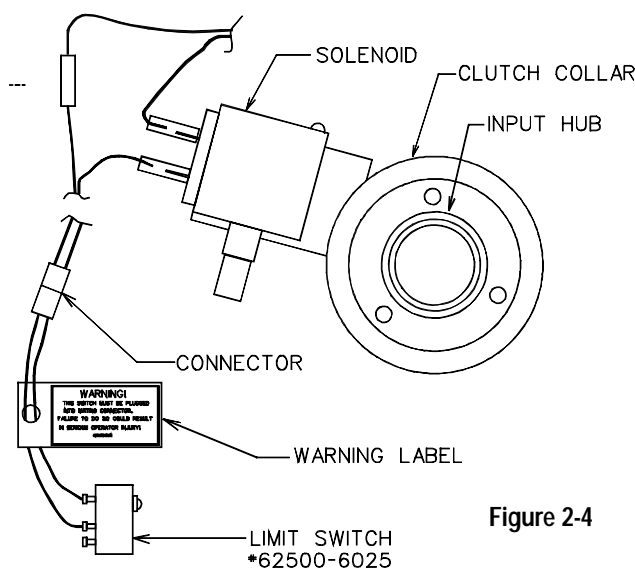

Figure 2-4
2. Bring the end of the cable assembly with the male and female quick disconnect terminals up to the solenoid. See Figure 2-4.